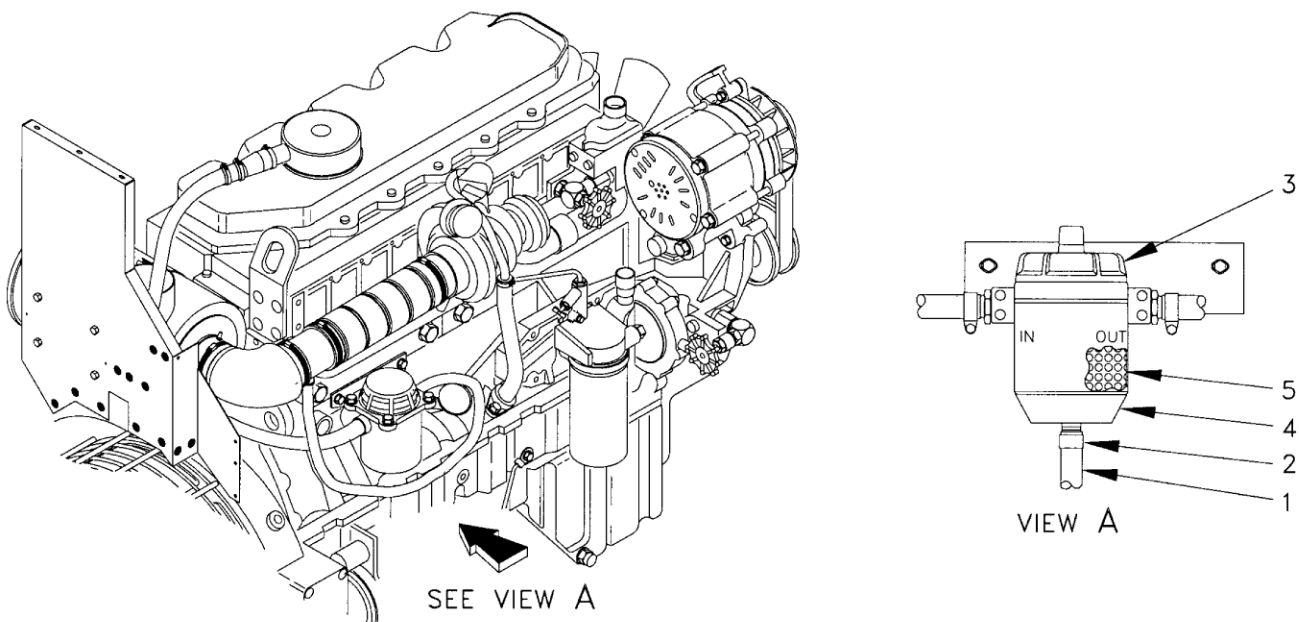

Figure 1. Crankcase Ventilation Filter.
3. Disconnect hose (Figure 1, Item 1) and reducer (Figure 1, Item 2) from bottom of crankcase ventilation filter (Figure 1, Item 3).
4. Unlatch bowl (Figure 1, Item 4) from crankcase ventilator filter (Figure 1, Item 3) and remove filter element (Figure 1, Item 5).
1. Install filter element (Figure 1, Item 5) and latch bowl (Figure 1, Item 4) back onto crankcase ventilation filter (Figure 1, Item 3).
2. Install reducer (Figure 1, Item 2) on bottom of crankcase ventilation filter (Figure 1, Item 3) and install hose (Figure 1, Item 1).